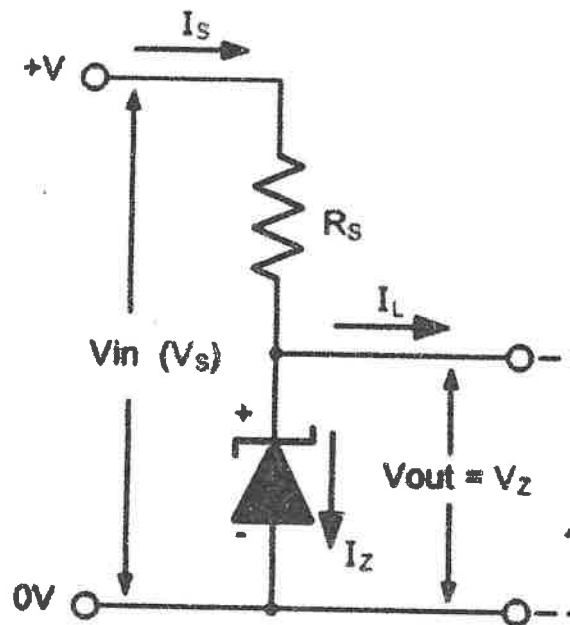

Fig 2. Basic Zener regulator circuit
- f) Consider a basic Zener regulator circuit given in Fig. 2; Given that  $0 \leq I_L \leq 150 \text{ mA}$ ,  $I_{z,knee} = 1 \text{ mA}$ ,  $V_{in} = 20 \text{ V} \pm 5\%$ , and  $V_{out} = 10 \text{ V}$ . Find, (1 Mark)